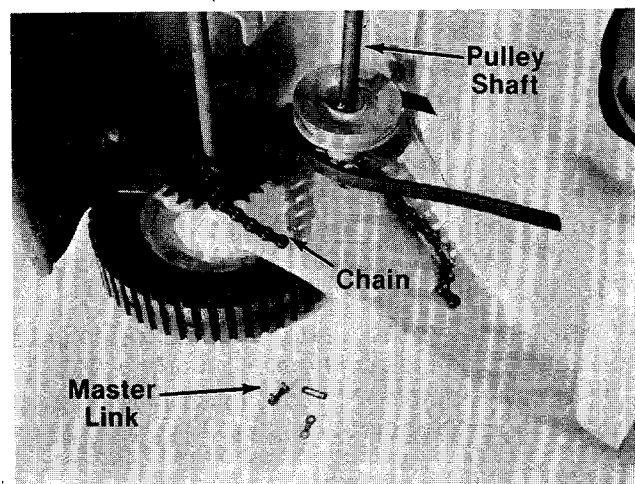

FIGURE 25.
9. Remove the master link from the chain. See figure 25.